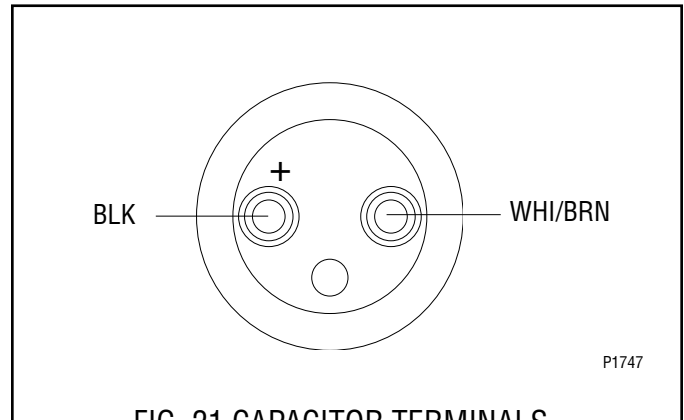

FIG. 21 CAPACITOR TERMINALS
3. Disconnect the wiring harness from the capacitor and attach it to a new capacitor making sure the black wire attaches to the positive (+) pole, FIG. 21.